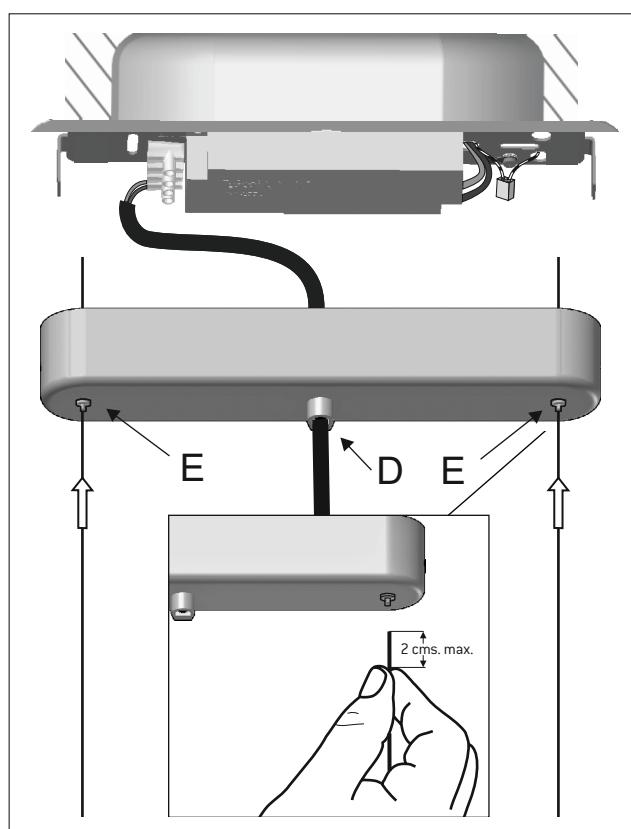
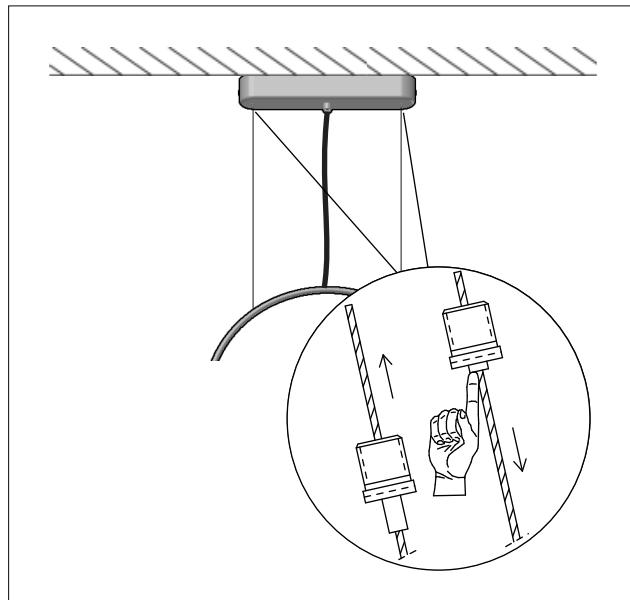
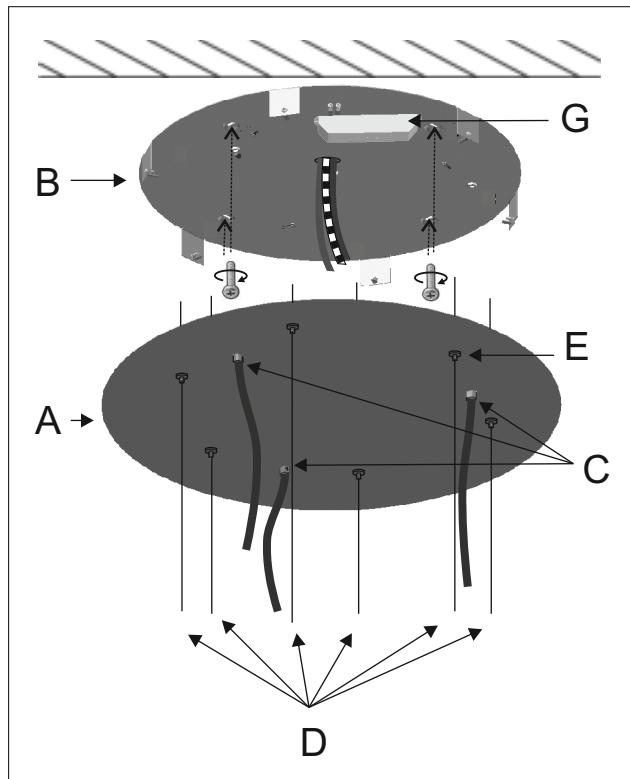
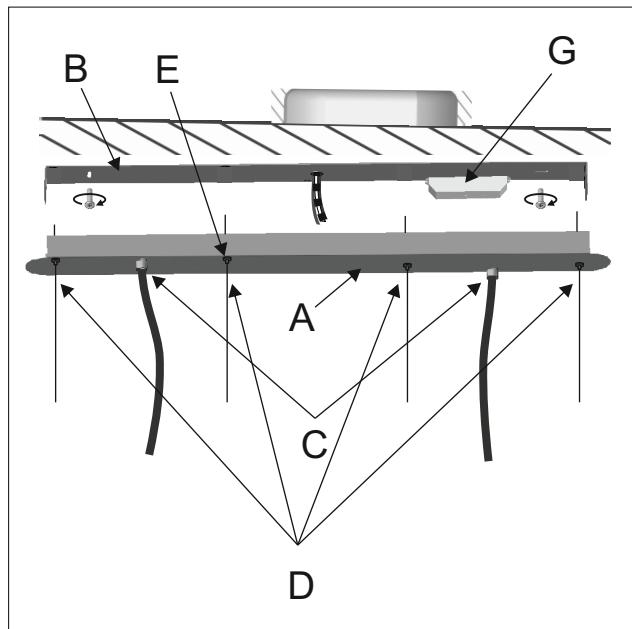

Figure 3
Figure 6
Figure 1
Figure 1
- 3 - Press the clamps [E] and introduce the steel cables. In order to make the introduction of the cable easier, do not allow more than 2cm between its tip and your thumb. Consult functioning of the clamps in Figure 6. Adjust the lamp's height [E]. Adjust the electrical cable's length with the fastener [D]. Figure 3.
Consult the functioning of the clamps in the following diagram. Figure 6.
Para conseguir menos longitud de cable empujar el cable hacia arriba y para aumentar la longitud presionar el mecanismo del pinza-cables. Manteniendo el mecanismo presionado, el cable se mueve libremente. Cuando se ha conseguido la longitud deseada, soltar el mecanismo y el cable queda fijo. Es aconsejable sujetar el cable con la otra mano para evitar una caída brusca de la lámpara. Figure 6.
Press the clamps [E] and introduce the Aircraft cables. In order to make the introduction of the cable easier, do not allow more than 2cm between its tip and your thumb. Consult functioning of the clamps in Figure 6. Adjust the electrical cables' length with the fasteners [C]. Figure 1.
Adjust the height of the lamp with the clamps [E] in Figure 1.
Press the clamps [E] and introduce the Aircraft cables. In order to make the introduction of the cable easier, do not allow more than 2cm between its tip and your thumb. Consult functioning of the clamps in page 3, Figure 6. Adjust the electrical cables' length with the fasteners [C]. Figure 1.
Re-adjust the height of the lamp with the clamps (E) in Figure 1.